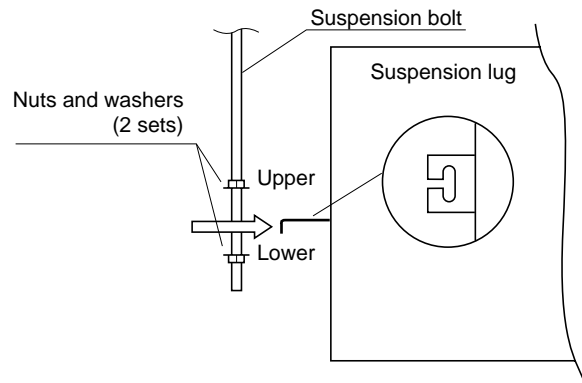

Fig. 3-37
- (3) Thread the 2 hexagonal nuts and washers (field supply) onto the 4 suspension bolts as shown in Fig. 3-37.